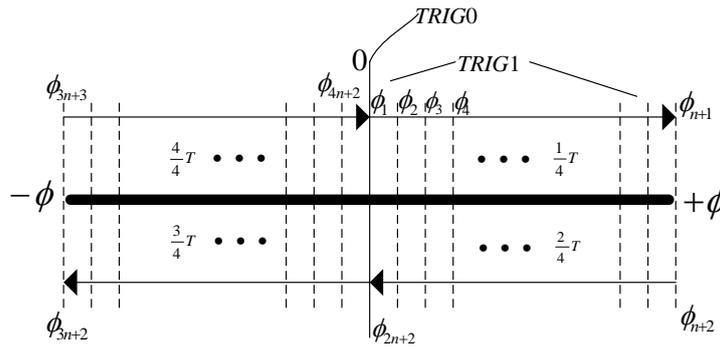

Figure 4 A period is divided into four parts
Generally, the scan angle is $2\Phi (\pm\Phi)$ and the marking angle is δ . In order to simplify the process of calculating the real-time scanning position of the MEMS mirror, equally divided a period (T) into four parts as shown in Figure 4.
The example that shown in figure 4 has 11 angle marking pulses signal (from TRIG1).
During this $1/4$ cycle, the MEMS mirror will return to the zero position at the end. However, only the angle marking pulse signal will be output at this period, there will be no zero marking pulse signal output. In this second $1/4 T$, there are also $N+1$ angle marking pulses signal. In figure 4, the number of angle marking pulse signal (TRIG1) is 11.
This $1/4$ period is similarly to the first $1/4 T$. The angle marking pulse signal will be output when the MEMS mirror scanning a marking angle, and the total number of the pulse during this $1/4$ cycle is N . In figure 4, the number of angle marker pulse (TRIG1) is 10.
At the end of this 1/4 cycle, the MEMS mirror will return to the zero position again. It also means that a new period will start. During this time, the angle marking pulse signals will keep outputting and the total number of the pulse is N. In figure 4, the number of angle marker pulse (TRIG1) is 10.